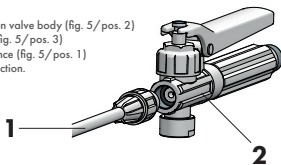

Fig.5
Make sure that the piston valve body (fig. 5/pos. 2) is fitted with an o-ring (fig. 5/pos. 3) and screw it onto the lance (fig. 5/pos. 1) to achieve a tight connection.